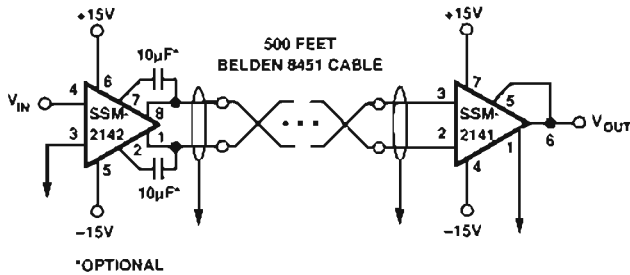

Figure 6. Interconnecting SSM-2141 and SSM-2142.
**SSM-2141 Balanced Line Receiver**, a complete solution for driving and receiving audio signals over long cables and in noisy environments (Figure 6). Price is \$2.95 in 100s.